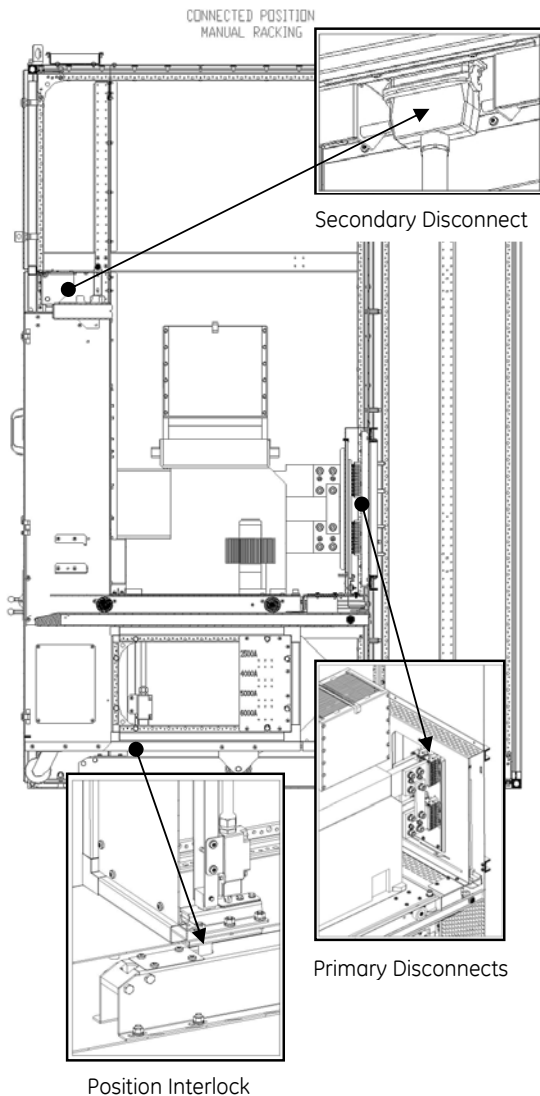

Fig. 72-1 CONNECTED position of the trolley
1. **CONNECTED position** - Primary Disconnects and Secondary Disconnect in full contact, breaker ready for normal operation. Position Interlock, see Fig. 72-1, keeps the trolley in this position.